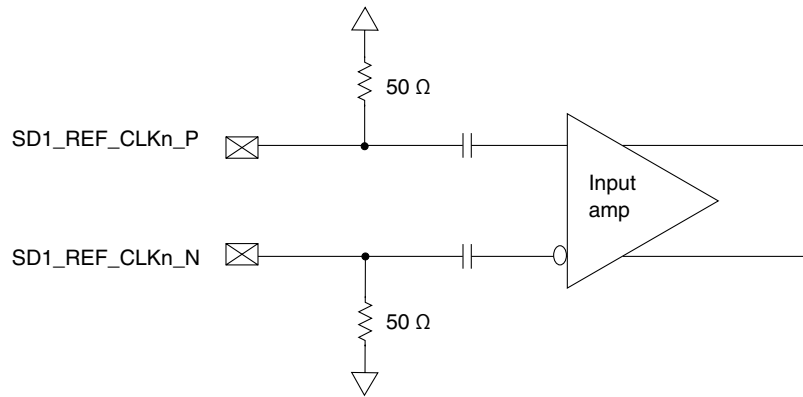

Figure 88. Receiver of SerDes reference clocks
- The SD1_REF_CLKn_P and SD1_REF_CLKn_N are internally AC-coupled differential inputs as shown in Figure 88. Each differential clock input (SD1_REF_CLKn_P or SD1_REF_CLKn_N) has on-chip 50-Ω termination to SGNDn followed by on-chip AC-coupling.
- For an external DC-coupled connection, as described in Figure 88, the maximum average current requirements set the requirement for average voltage (common mode voltage) as between 100 mV and 400 mV.